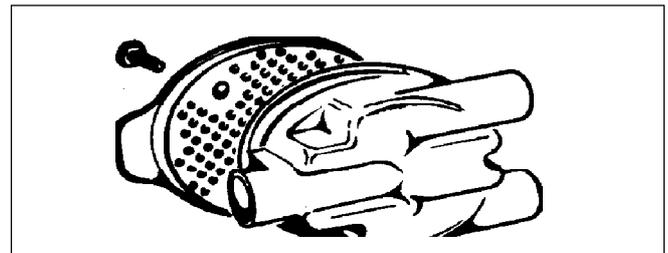

Fig. 4
- For disassembly, first remove the muffler cover group (Fig 4).
**NOTE** - The internal holes of the muffler (Fig 4) must be always perfectly clean and should not show any moulding defects (burrs) otherwise carburation may be affected.